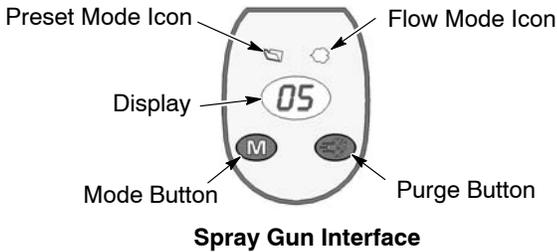

Figure 21 Gun Interface Controls
1. See Figures 21 and 22. Release the spray trigger. Presets cannot be changed while the gun is triggered on.
1. See Figures 21 and 22. Press the **Mode** button until the **Flow Mode** icon is lit.
1. See Figures 21 and 22. Point the gun into the booth and release the spray trigger.